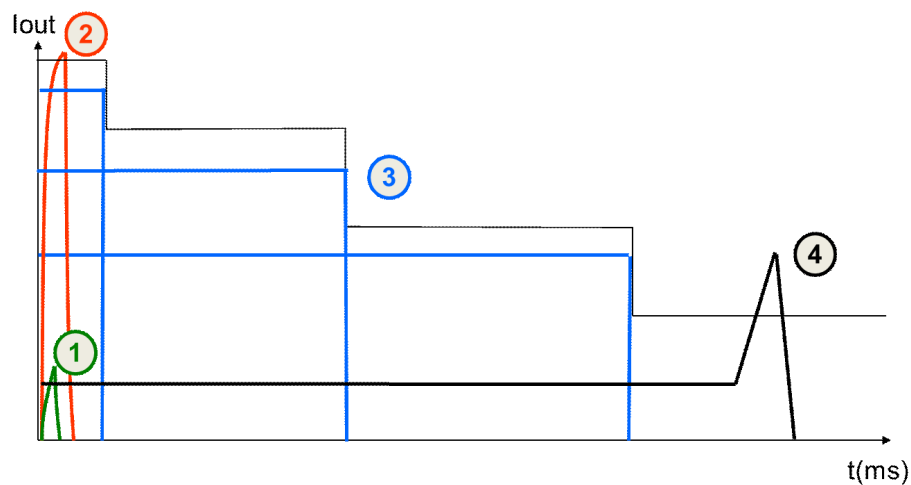

Figure 5. Repetitive short-circuit tests modes
Tests applied for the MC12XS6 devices were based on specific short-circuit conditions, activating each overload protection feature, as described in Table 2. and Figure 5.
2. These test numbers refers to those identified in Figure 5.
3. These test numbers refers to those identified in Figure 5.
4. These test numbers refers to those identified in Figure 5.